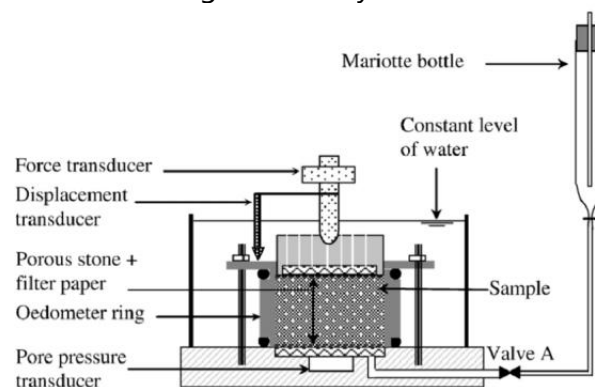

Fig.9.2 Cement paste permeability apparatus
9.2 Determine the fresh cement paste permeability is a key parameter to understand the hydro-mechanical behavior of cement-based materials, i.e., rheological properties and static stability. However, its permeability measurement is not easy to assess. The porous medium is not rigid and tends to change due to hydration kinetics as shown in Fig.9.2.